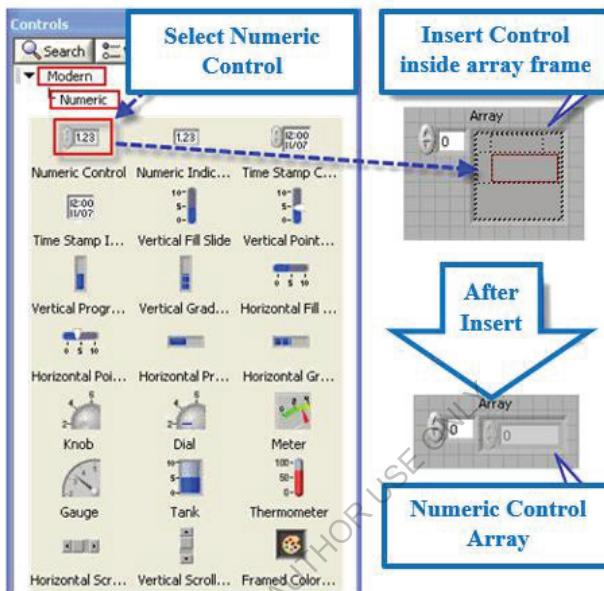

Figure 2.185: Make Control Array
- 2- The Control or Indicator that we want is inserted into the array window to create an array from it, as shown in figure 2.185.